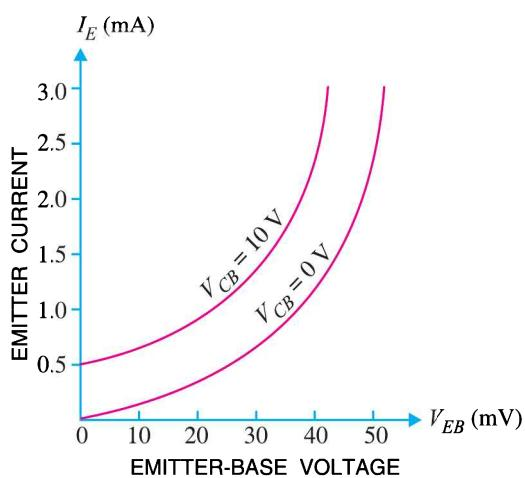

Fig. 8.14
**1. Input characteristic.** It is the curve between emitter current  $I_E$  and emitter-base voltage  $V_{EB}$  at constant collector-base voltage  $V_{CB}$ . The emitter current is generally taken along  $y$ -axis and emitter-base voltage along  $x$ -axis. Fig. 8.14 shows the input characteristics of a typical transistor in  $CB$  arrangement. The following points may be noted from these characteristics :